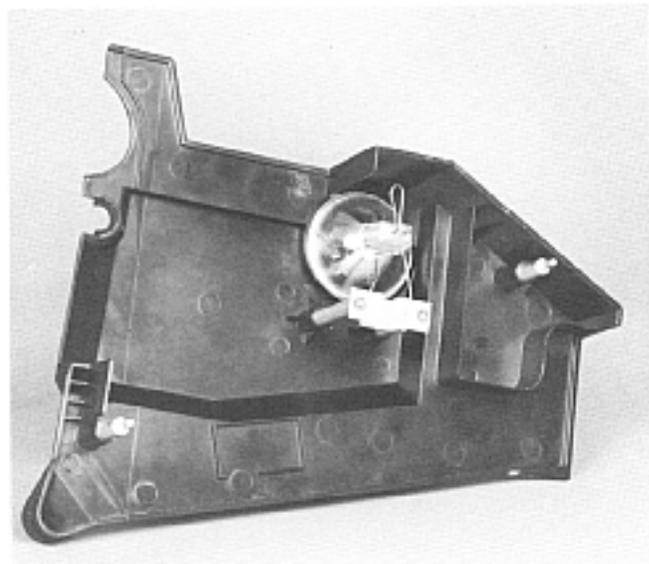

Figure 32
**NOTE:** There is a convenient spare-lamp storage area, with retaining spring, inside the front cover, as shown in Figure 32.